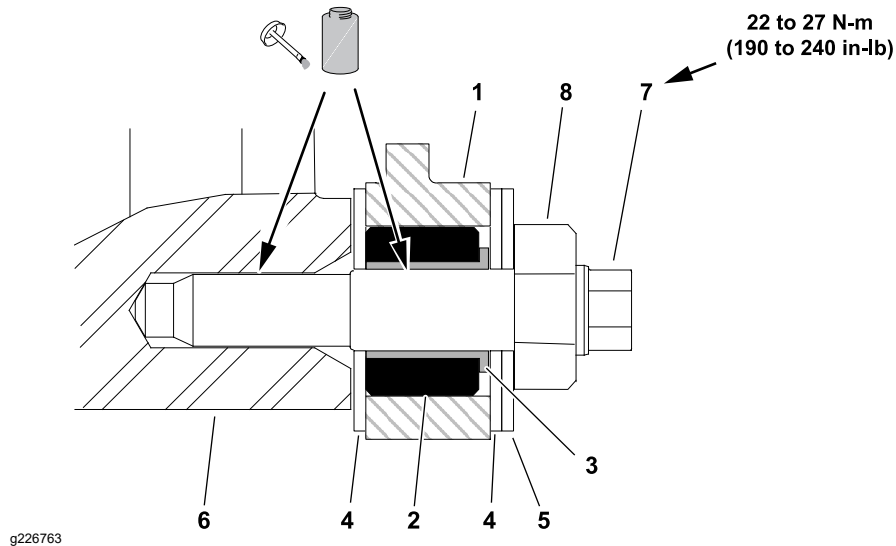

Figure 98
1. If rubber bushing (item 4 in Figure 98) was removed from either side plate, apply grease to outside surface of new bushing and install into side plate (1). The bushing (4) should be installed flush with the inside surface of the side plate; refer to Figure 98.
2. If removed, install the nylon bushings (5) with flange facing outward.
3. Apply anti-seize lubricant to the threads and shank of each bedbar bolt (8); refer to Figure 98.